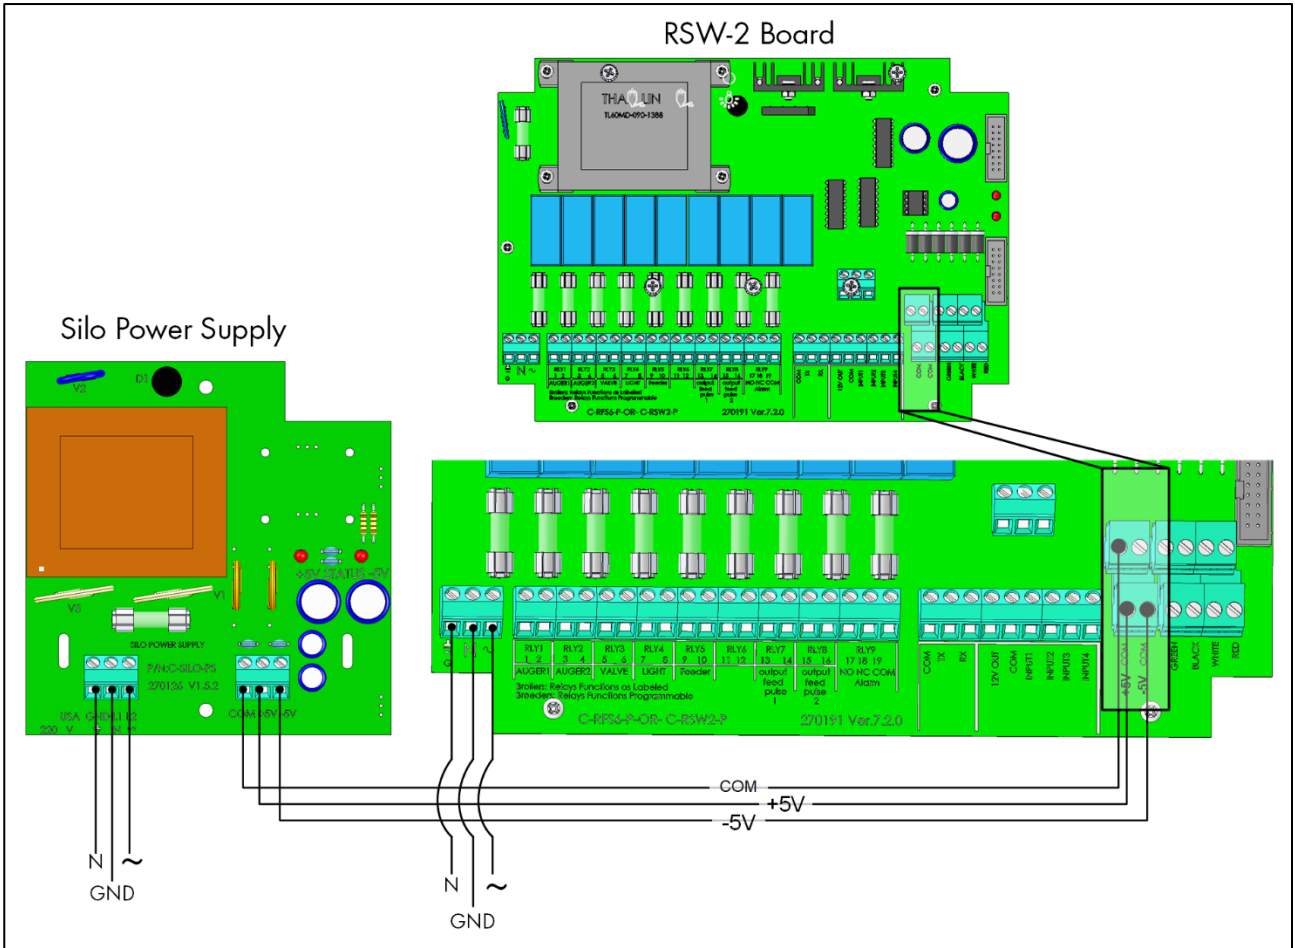

Figure 10: External Power Supply Wiring Diagram
- When seven (7) or eight (8) RSLC units are connected an RSW-2/RJB, an **additional** external power source (SILO-PS) is required (Figure 10).